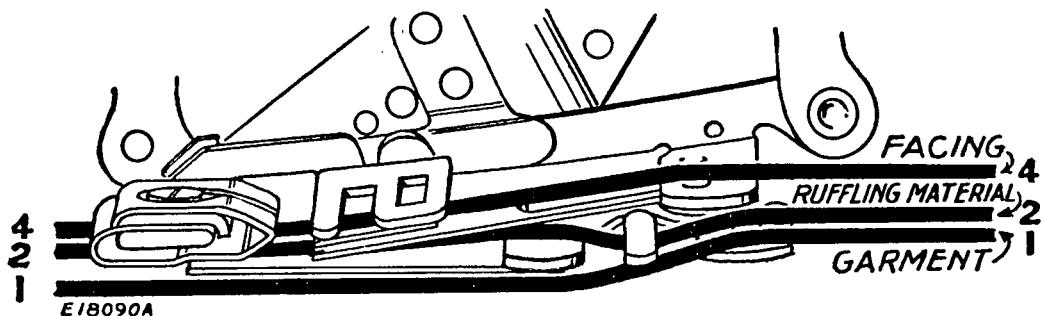

FIG. 65. CORRECT POSITIONS FOR THE MATERIALS
- (1) Insert the material to be ruffled between the two blue blades **Line 2**, Fig. 65.
- (2) Place the material to which the ruffle is to be attached under the separator blade **Line 1**, Fig. 65.
(3) Place the facing material over the upper blue blade **Line 4**, Fig. 65.